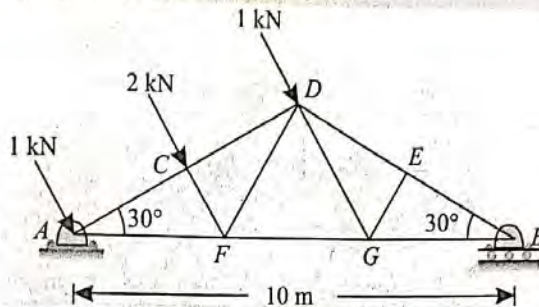

Fig. 9.30.
**Example 9.15.** Fig. 9.30 shows a roof truss hinged at one end and rests on rollers at the other. It carries wind loads as shown in the figure.